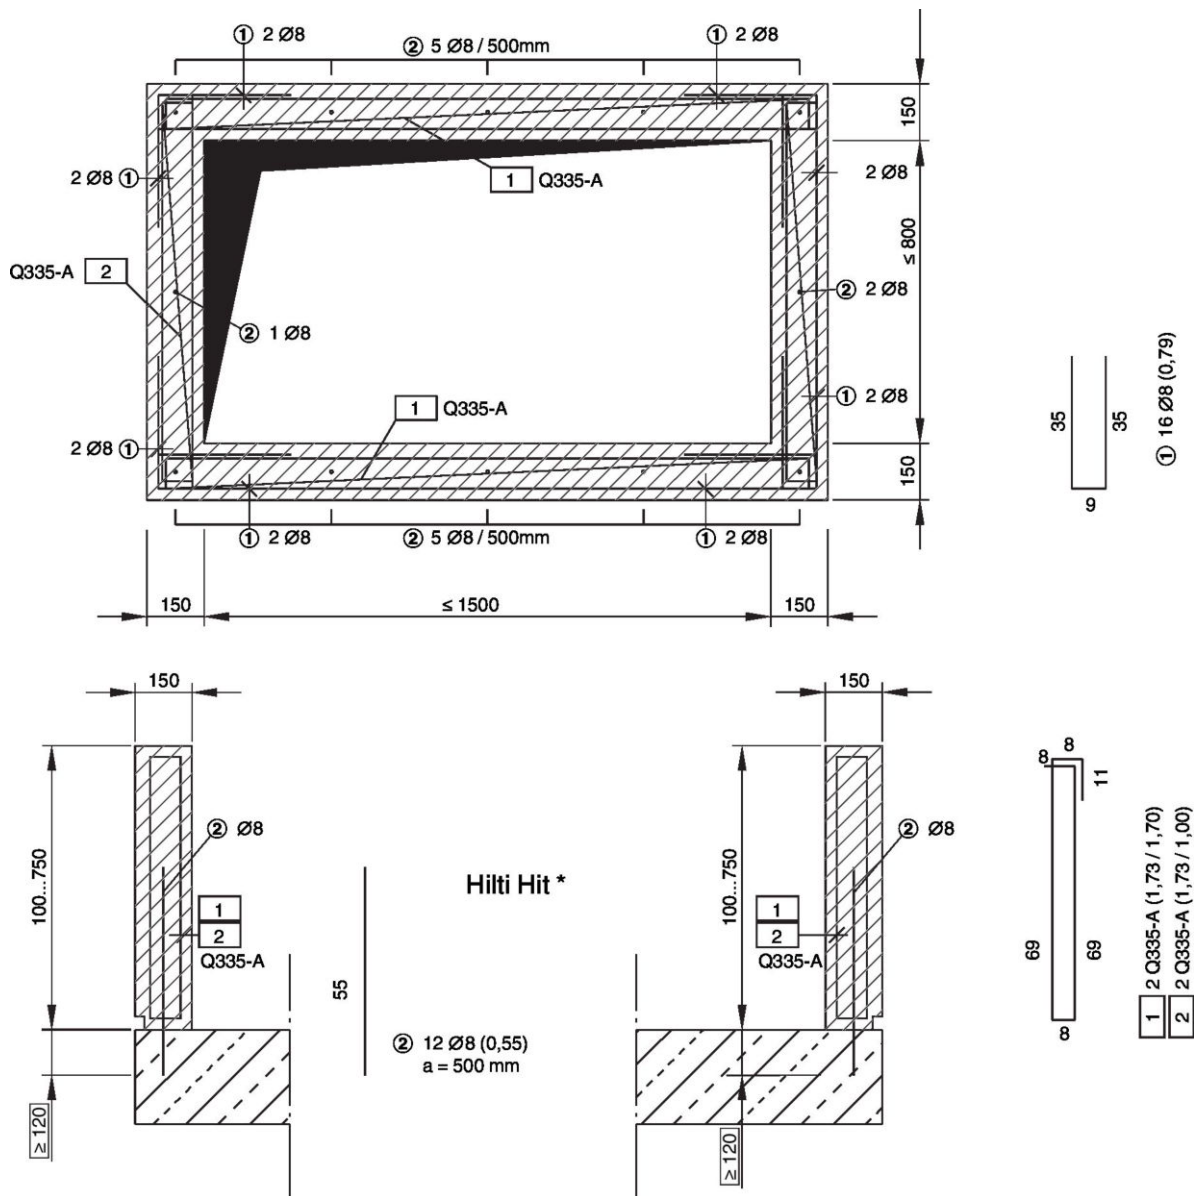

Fig. 42: Reinforcement plan for concrete bases with a height of 100 to 750 mm
| 2.3 | Concrete base with reinforcement, for details see Fig. 42 | A | Installation side |
2. ▶ Create a concrete base, for a reinforcement plan see Fig. 42 (or equivalent, e.g. with steel fabric).